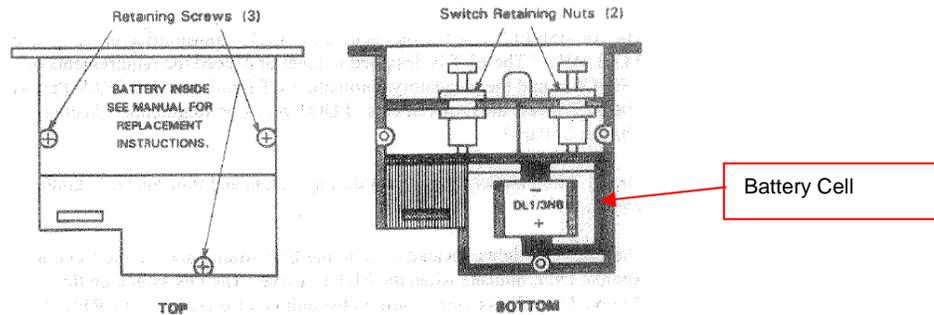

Figure 25-18 Remote Switch Battery Access
1. Referring to Figure 25-18, remove three (3) retaining screws from the remote switch body to access the battery compartment.
2. Loosen two switch-retaining nuts located on the front of the unit as shown in Figure 25-18.
7. Insert battery, Duracell model DL 1/3NB, with the polarity shown in Figure 25-18 above.
8. Replace the top half of the remote unit and replace the three (3) retaining screws removed previously.